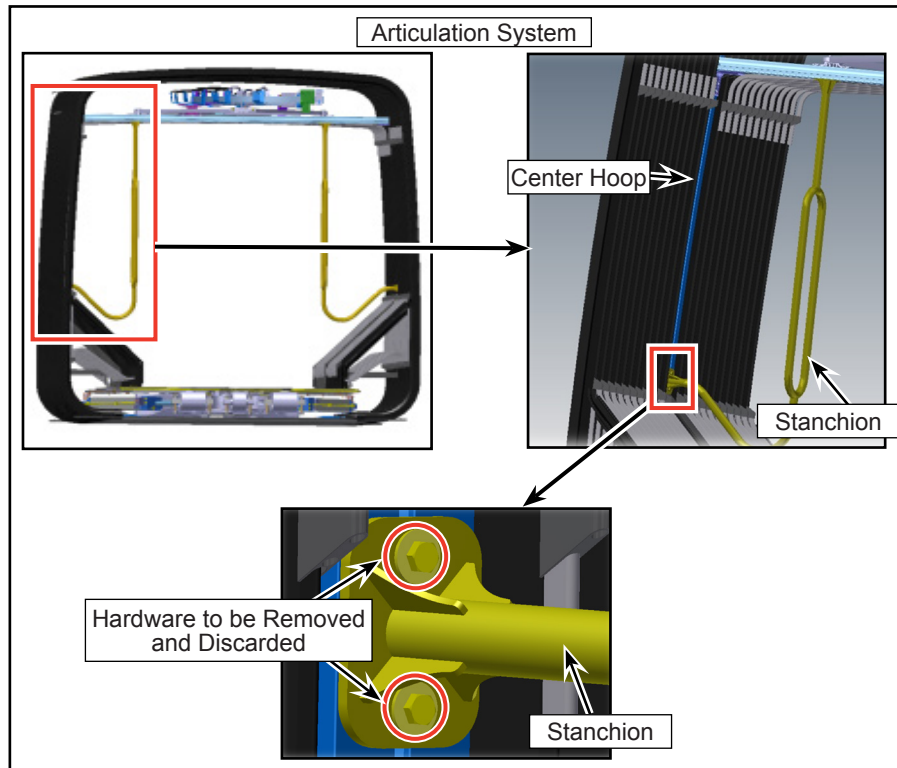

Figure 3 - Removal of Stanchion
- 1.4. Remove the existing stanchion on both sides fixed to the center hoop of the articulation. Discard the stanchion, bolts and washers (see Figure 3).